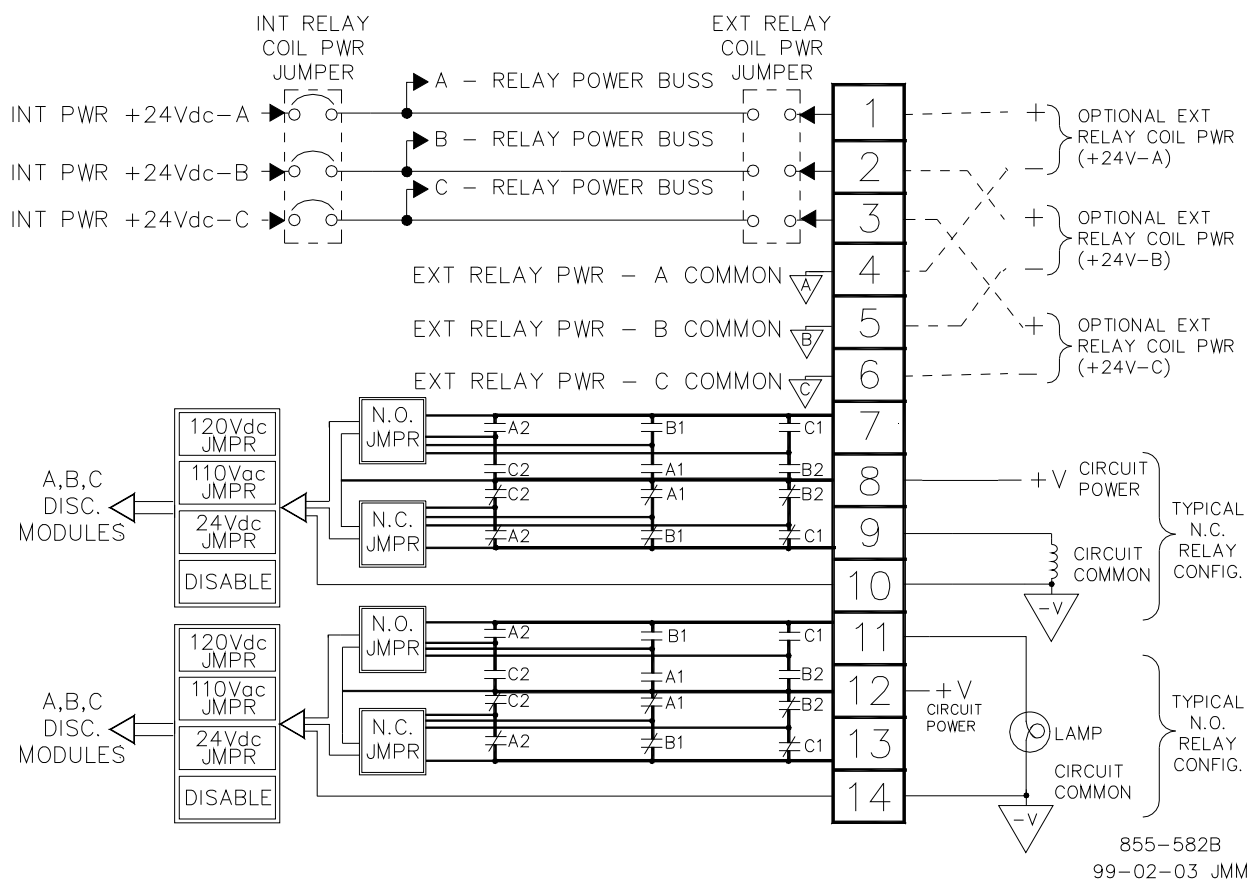

Figure 11-14. Example Relay Output Wiring Diagram
- Refer to Figure 11-14 and Appendix E for relay output wiring connections to the FTMs.